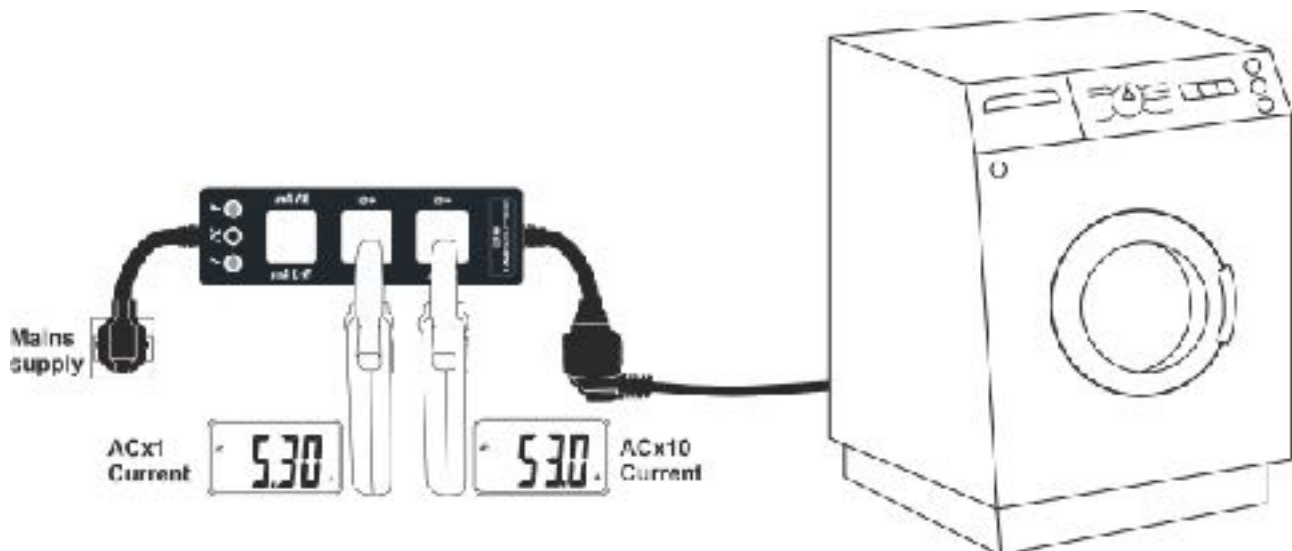

Fig. 2: Use of the instrument for line current measurement
4. Read the value of line current in the Ax1 ring or divide by 10 the value of current read in the Ax10 ring (see Fig. 2)